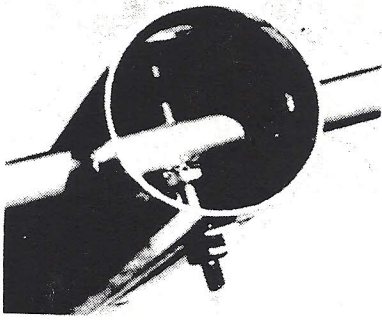

figure 2a
2) Install 2 of the 1/2" dia X 18" long rod support brackets in one end of an A-type boom section. Refer to figures 2a & 2b. Secure in the boom section with 10-32 X 2 1/2" bolts, nuts, and lockwashers.